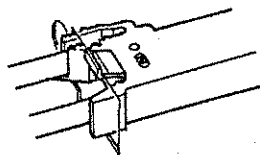

Figure 6.7
- (8) Push the cassette into the square hole on the right side plate until it latches with a click. (Figure. 6.7)
- (9) When the slack ribbon falls below the wire dot printer, repeat the above procedure to remove ribbon slackening.